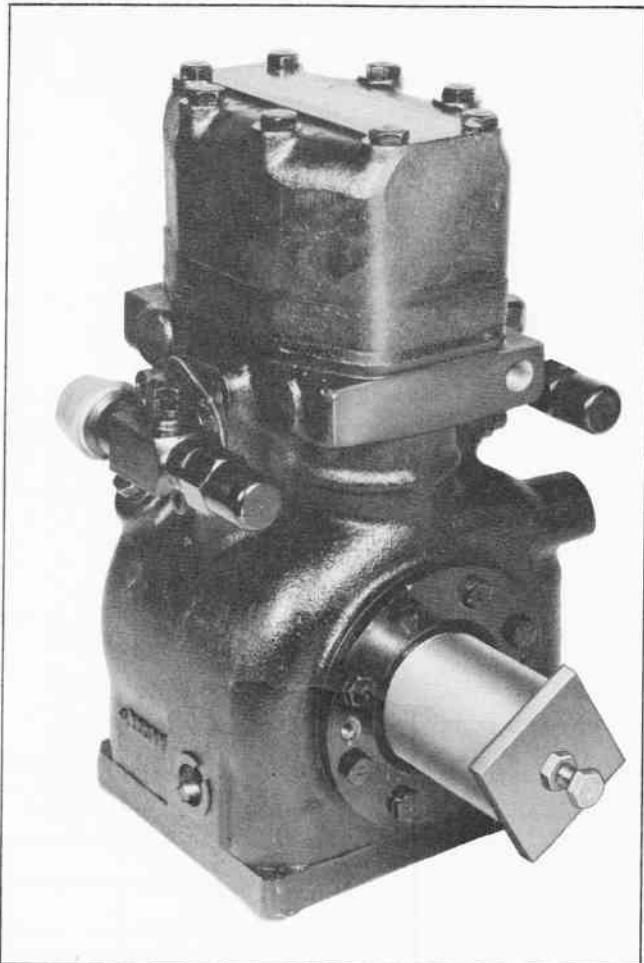

Fig. 8 Installation of Seal Bellows Assembly
- b. Install the special tool having the 1-13/16" inside diameter, the 2" x 2" x 1/4" plate and the 5/16" x 1-1/4" N.F. hexhead bolt (with the nut threaded up to the head of the bolt) and complete installation as shown in Figure 8. Hold the head of the hexhead bolt and tighten the nut so that the back plate and spacer forces the seal bellows assembly tight against the compressor.